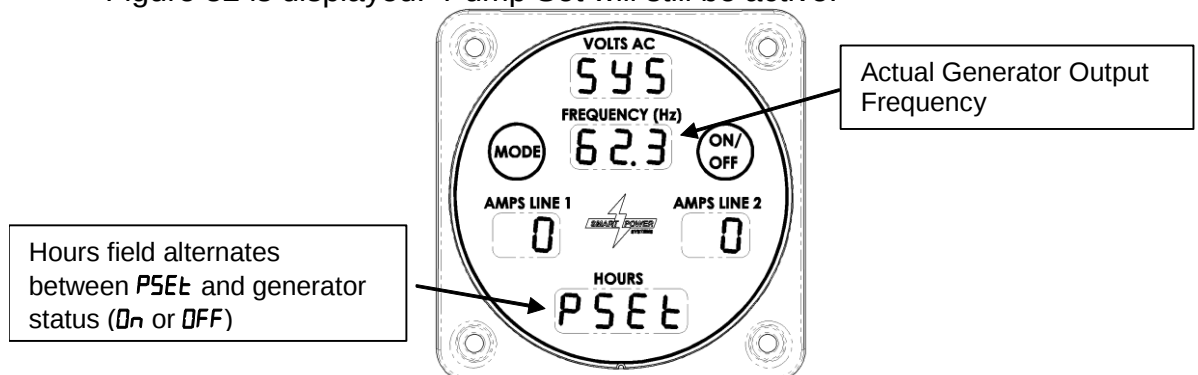

Figure 32 – Pump Set Display
- e. Return to Normal mode by pressing the Mode button until the screen shown in Figure 32 is displayed. Pump Set will still be active.